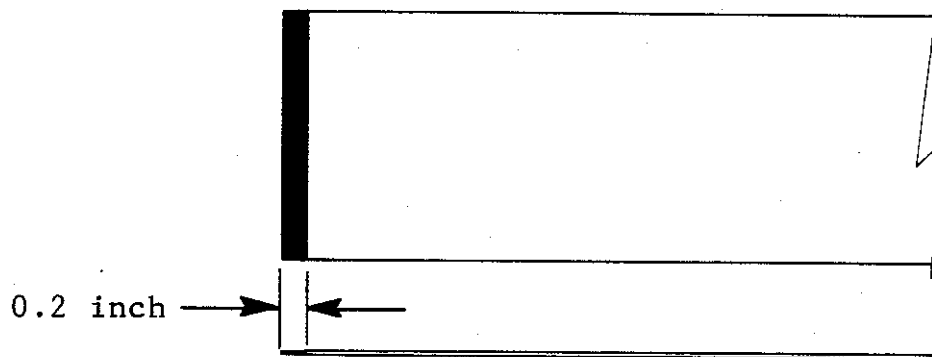

Figure 7-3. Stripping Planar Shield
2. Strip the shield insulation for a distance of 0.2 ± 0.1 inch (Figure 7-3).